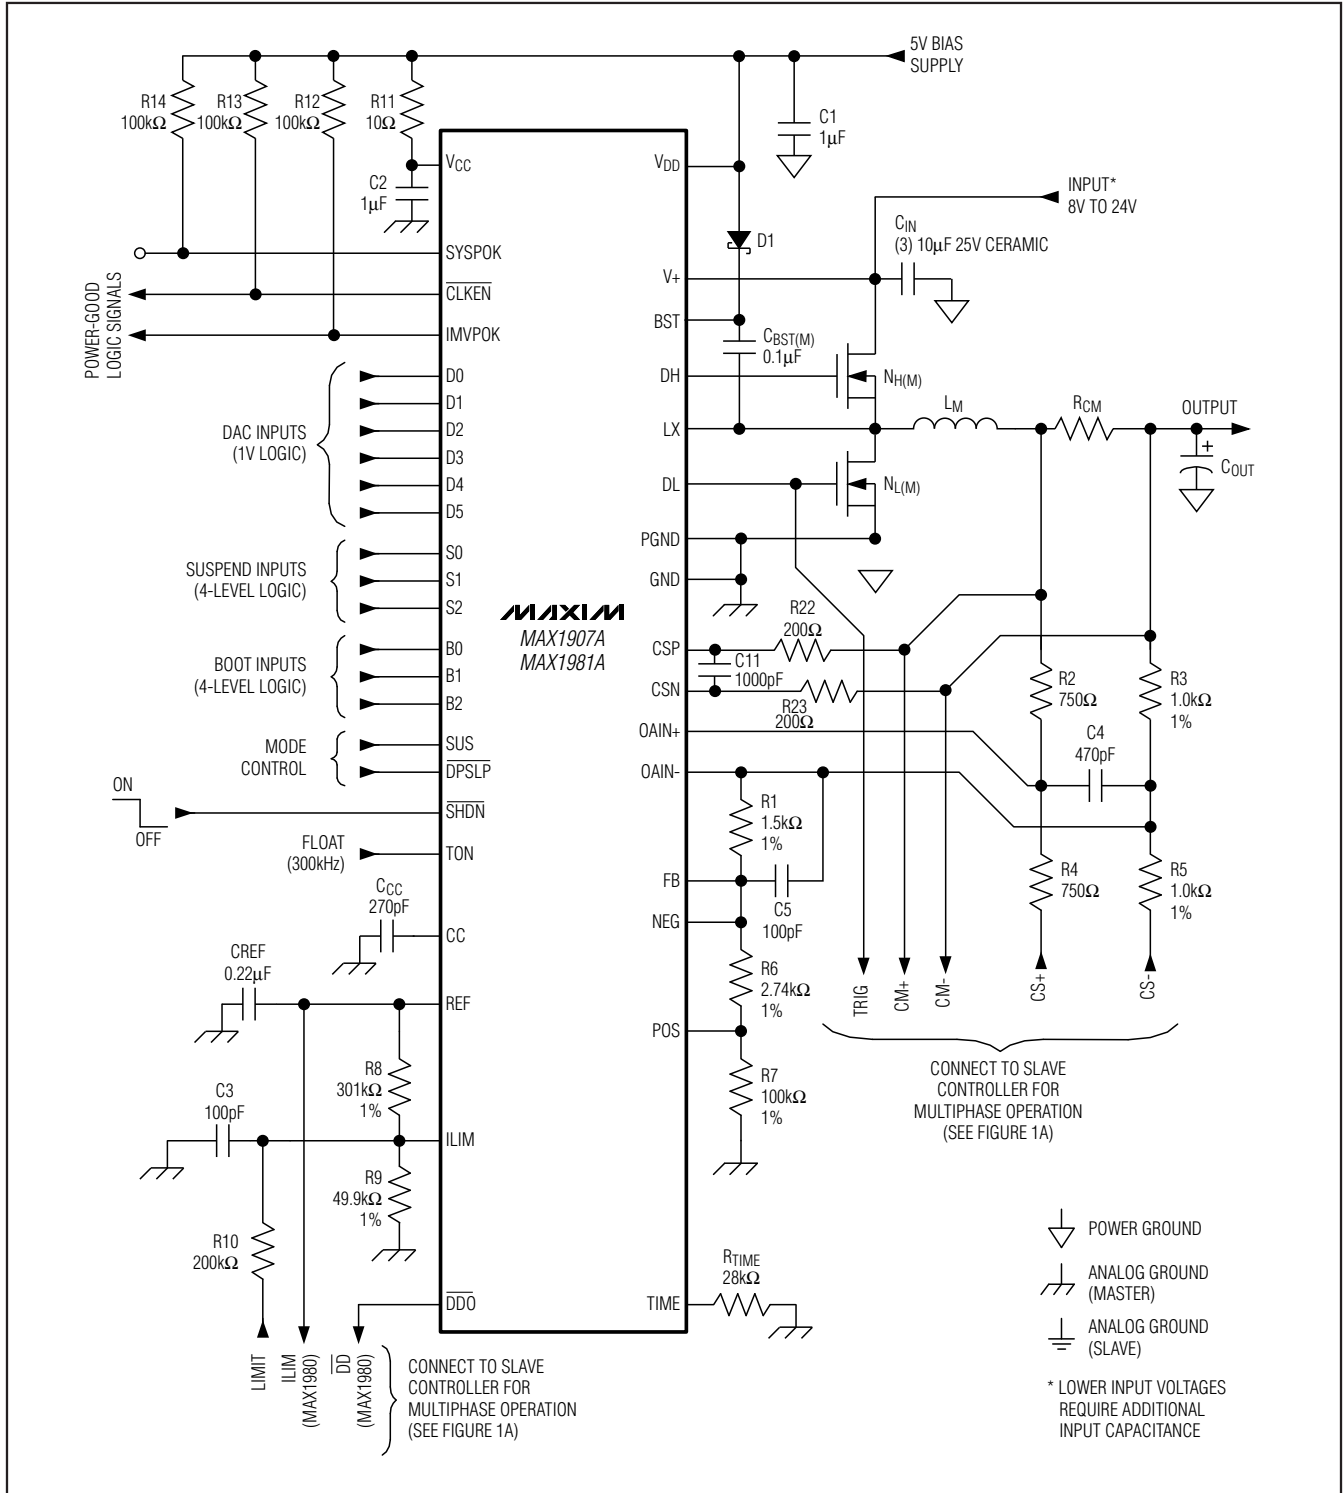
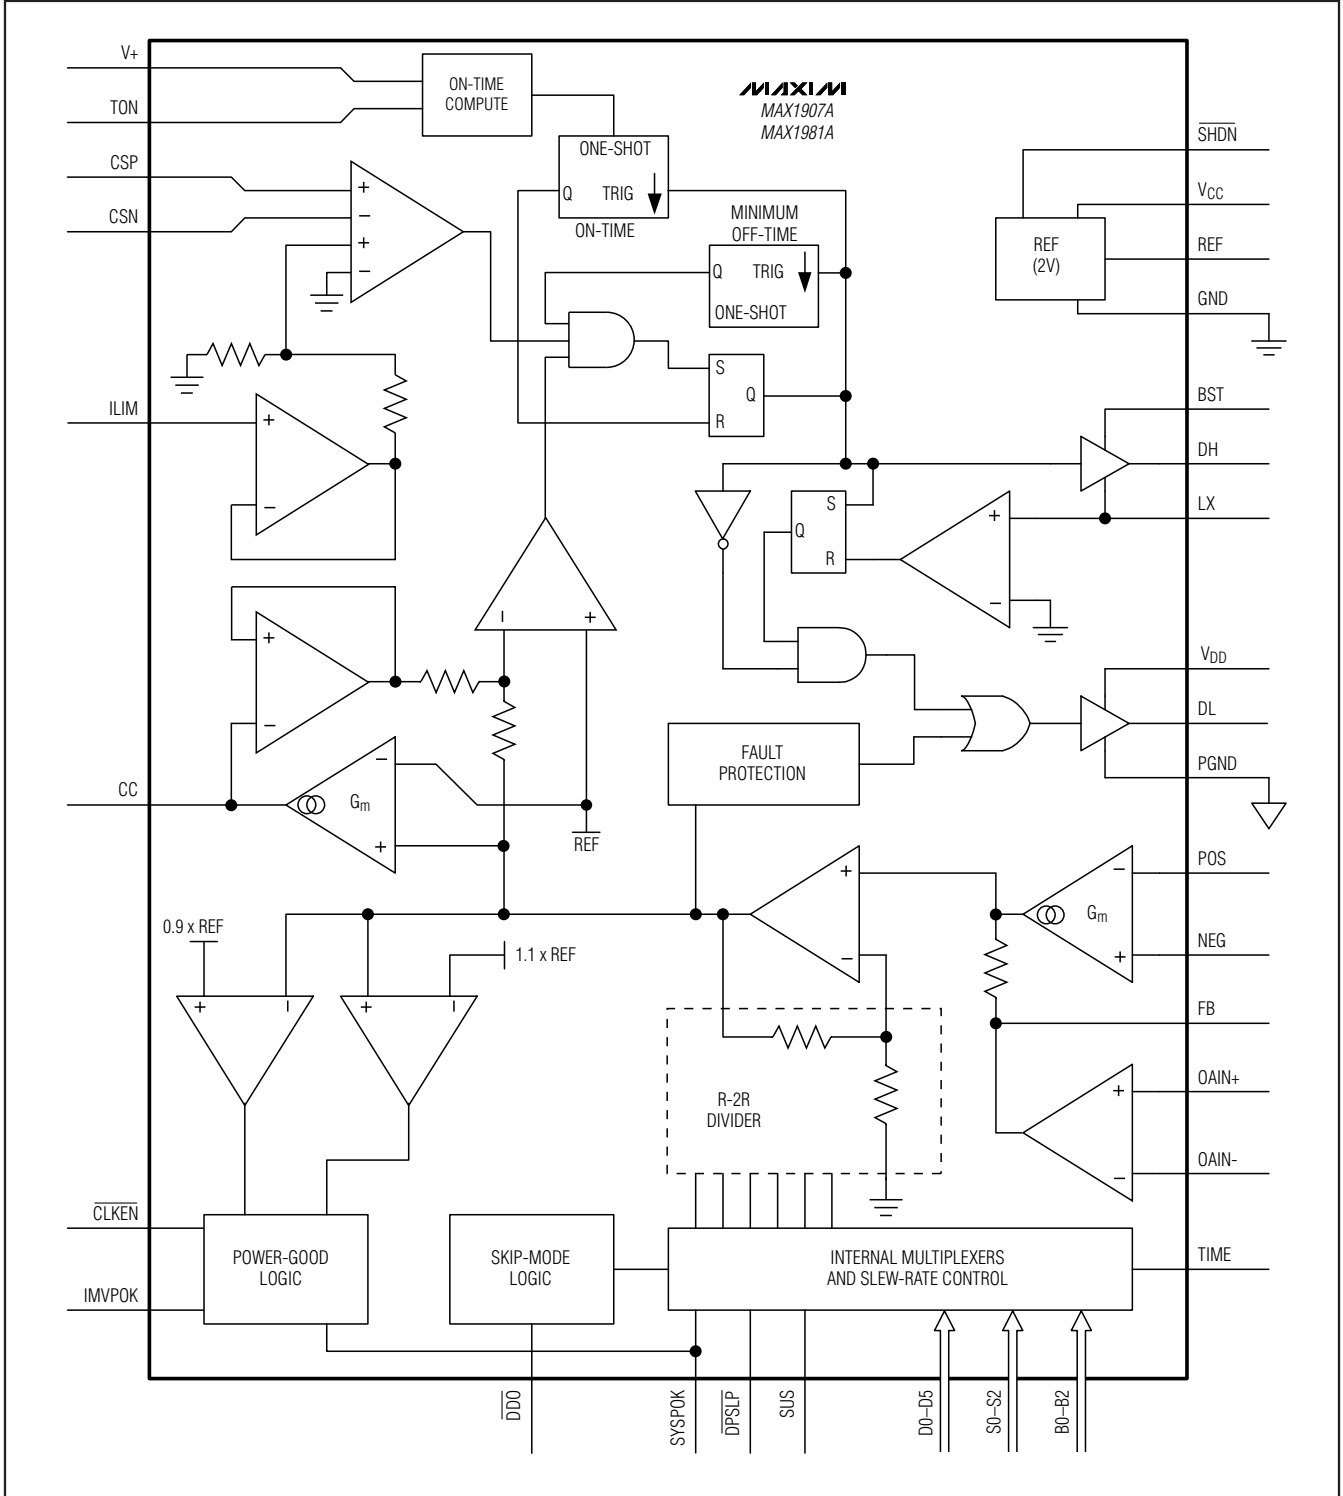

Figure 1. Standard Multiphase Application Circuit
Figure 2. MAX1907A/MAX1981A Functional Diagram
(Circuit of Figure 1,  $V_+ = 12V$ ,  $V_{CC} = V_{DD} = 5V$ , B0–B2 set to 1.276V, S0–S2 set to 0.748V.)
**Table 1. Component Selection for Standard Multiphase Applications (Figure 1)**
The Quick-PWM control architecture is a pseudo-fixed-frequency, constant-on-time, current-mode regulator with voltage feed-forward (Figure 2). This architecture relies on the output filter capacitor's ESR to act as the current-sense resistor, so the output ripple voltage provides the PWM ramp signal. The control algorithm is simple: the high-side switch on-time is determined solely by a one-shot whose period is inversely proportional to input voltage and directly proportional to output voltage. Another one-shot sets a minimum off-time (400ns, typ). The on-time one-shot is triggered if the error comparator is low, the low-side switch current is below the current-limit threshold, and the minimum off-time one-shot has timed out.
Two transconductance amplifiers provide a fine adjustment to the output regulation point (Figure 2). One amplifier forces the DC average of the feedback voltage to equal the VID DAC setting. The second amplifier is used to create small positive or negative offsets to the feedback voltage, using the POS and NEG pins.
The POS/NEG amplifier is used to add small offsets to the VID DAC setting in deep-sleep mode ( $\overline{DPSLP} = \text{low}$ ). The offset amplifier is summed directly with the feedback voltage, making the offset gain independent of the DAC code. This amplifier has the ability to offset the output by  $\pm 200\text{mV}$ . To create an output offset, bias POS and NEG to a voltage (typically  $V_{OUT}$  or REF) within their 0 to 2V common-mode range, and offset them from one another with a resistive divider (Figure 1). If  $V_{POS}$  is higher than  $V_{NEG}$ , then the output is shifted in the positive direction. If  $V_{NEG}$  is higher than  $V_{POS}$ , then the output is shifted in the negative direction. The output offset equals the voltage difference from POS to NEG.
In skip mode ( $SUS$  = high, or  $\overline{DPSLP}$  = low), an inherent automatic switchover to PFM takes place at light loads (Figure 3). This switchover is effected by a comparator that truncates the low-side switch on-time at the inductor current's zero crossing. The zero-crossing comparator senses the inductor current across the low-side MOSFET. Once  $V_{LX} - V_{PGND}$  drops below 4mV (typ), the comparator forces DL low (Figure 2). This mechanism causes the threshold between pulse-skipping PFM and non-skipping PWM operation to coincide with the boundary between continuous and discontinuous inductor-current operation. The load-current level at which PFM/PWM crossover occurs,  $I_{LOAD(SKIP)}$ , is equal to 1/2 the peak-to-peak ripple current, which is a function of the inductor value (Figure 4). For a battery range of 8V to 24V, this threshold is relatively constant, with only a minor dependence on battery voltage:
The current-limit circuit employs a unique “valley” current-sensing algorithm that uses a current-sense resistor between CSP and CSN as the current-sensing element (Figure 1). If the current-sense signal is above the current-limit threshold, the PWM is not allowed to initiate a new cycle (Figure 2). Since only the “valley” current is actively limited, the actual peak current is greater than the current-limit threshold by an amount equal to the inductor ripple current. Therefore, the exact current-limit characteristic and maximum load
The inverting (OAIN-) and noninverting (OAIN+) inputs are used to differentially sense the voltage across the voltage-positioning sense resistor. The op amp's output is internally connected to the regulator's feedback input (FB). The op amp should be configured as a noninverting, differential amplifier as shown in Figure 1. The voltage positioning slope is set by properly selecting the feedback resistor connected from FB to OAIN- (see the *Setting Voltage Positioning* section). For applications using a slave controller, additional differential input resistors (summing configuration) should be connected to the slave's voltage-positioning sense resistor (Figure 1). Summing together both the master and slave current-sense signals ensures that the voltage-positioning slope will remain constant when the slave controller is disabled.